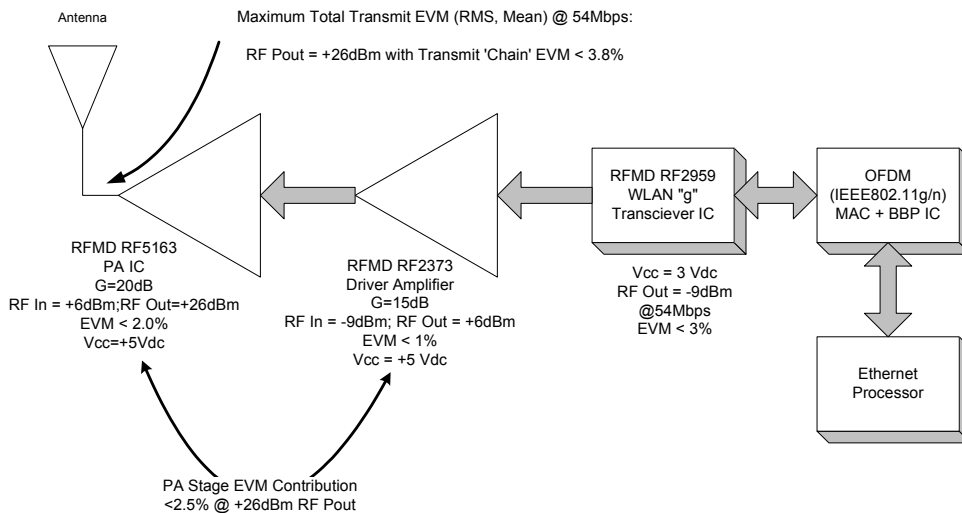

Figure 1. IEEE802.11g/n AP Transmitter Major Component Line-Up
Figure 1 below shows the major component line-up for an ultra linear fixed application (e.g., an access point (AP)) transmitter capable of producing +26dBm RF P_{OUT} with an amplifier stage (driver + final stage power amplifier IC, RF2373 + RF5163) EVM contribution of < 2.5% EVM, RMS (mean).